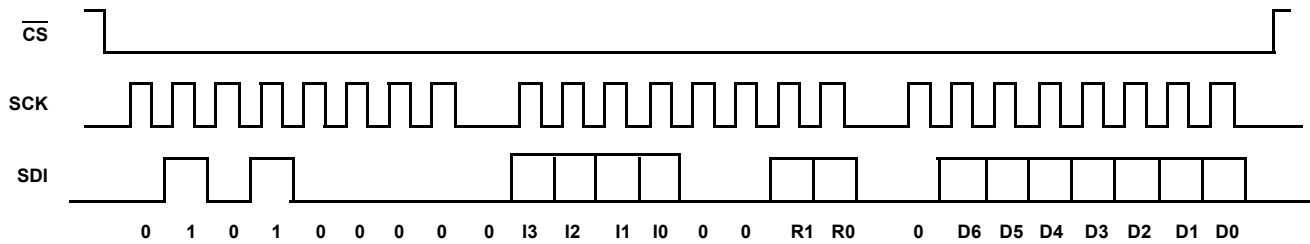

FIGURE 12. THREE BYTE WRITE SEQUENCE
A Write operation to the ISL22419 is a three-byte operation. It requires first, the  $\overline{\text{CS}}$  transition from HIGH to LOW, then a valid Identification Byte, then a valid instruction byte followed by Data Byte is sent to SDI pin. The host terminates the write operation by pulling the  $\overline{\text{CS}}$  pin from LOW to HIGH. For a write to address 0 (WR), the byte at address 2 (ACR[7]) determines if the Data Byte is to be written to volatile or both volatile and non-volatile registers. Refer to "Memory Description" on page 9 and Figure 12.